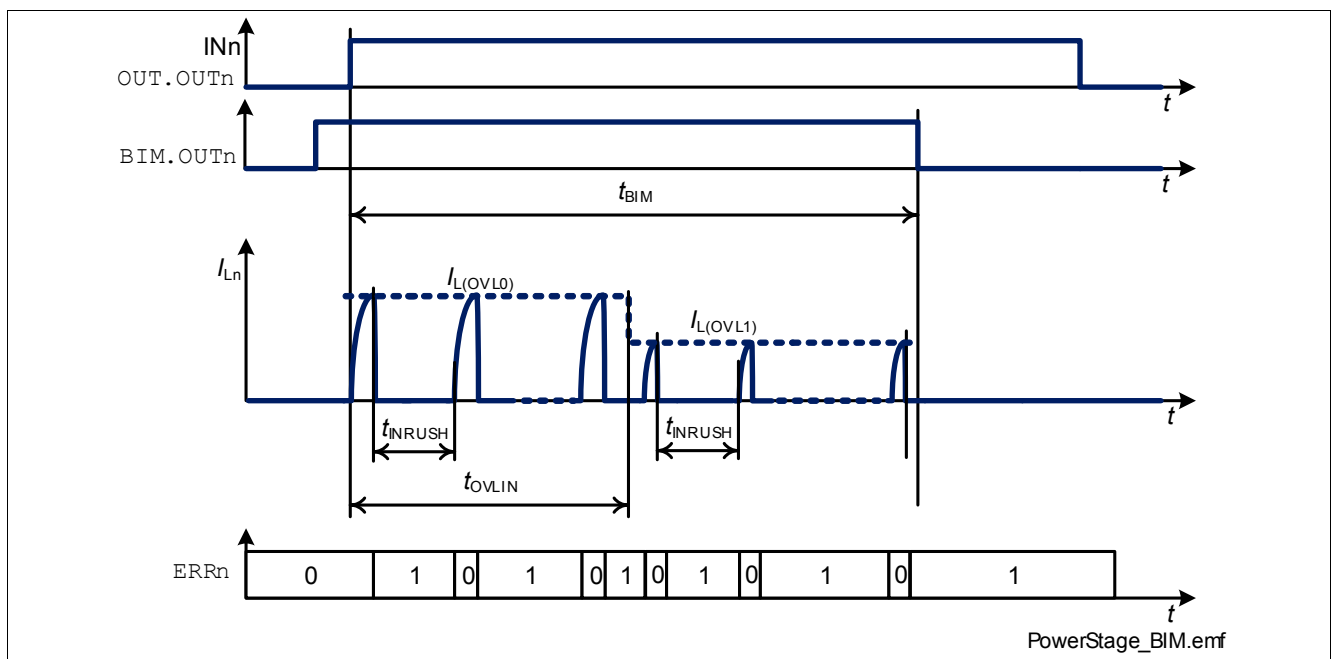
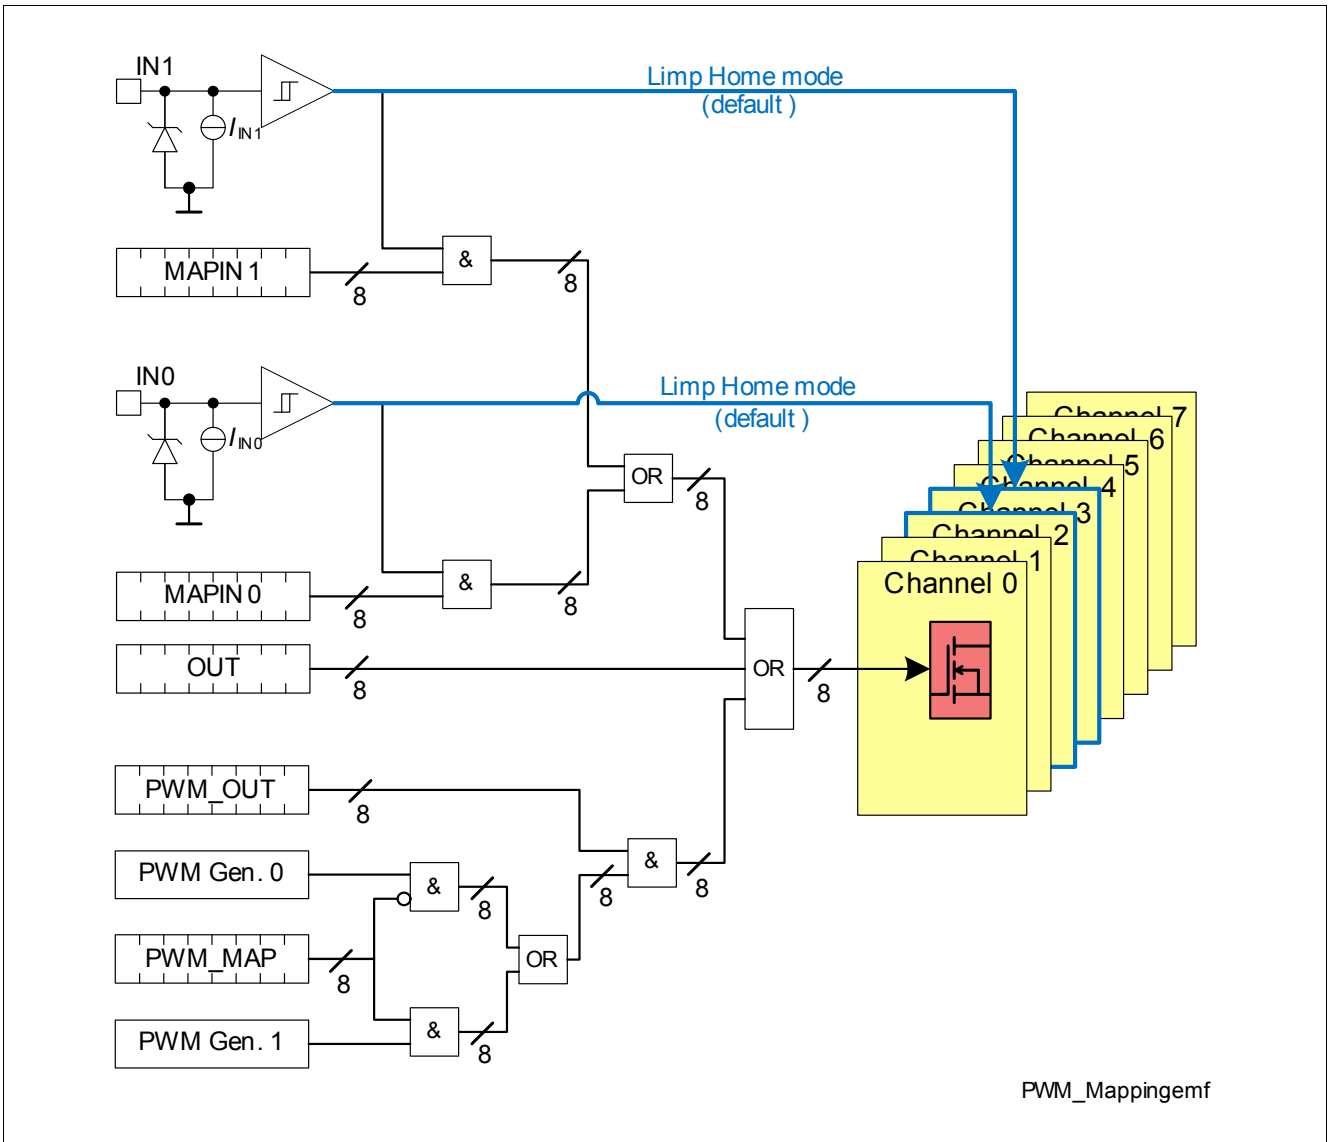

Figure 19 Bulb Inrush Mode (BIM) operation
Figure 20 PWM Generator Mappings
If the corresponding bit BIM.OUTn is set to “1”, in case the channel reaches the overload current threshold or the overtemperature threshold and latches OFF, it restarts automatically after a time  $t_{INRUSH}$ , allowing the load to go out of the inrush phase. A time diagram is shown in Figure 19. As shown, the counter starts when the channel is switched ON. Every channel switch OFF (independently from the entity controlling the channel - see Figure 20 for further details) resets the bit BIM.OUTn to “0”.
**Figure 20** expands the concept shown in **Figure 10** adding the PWM Generators.